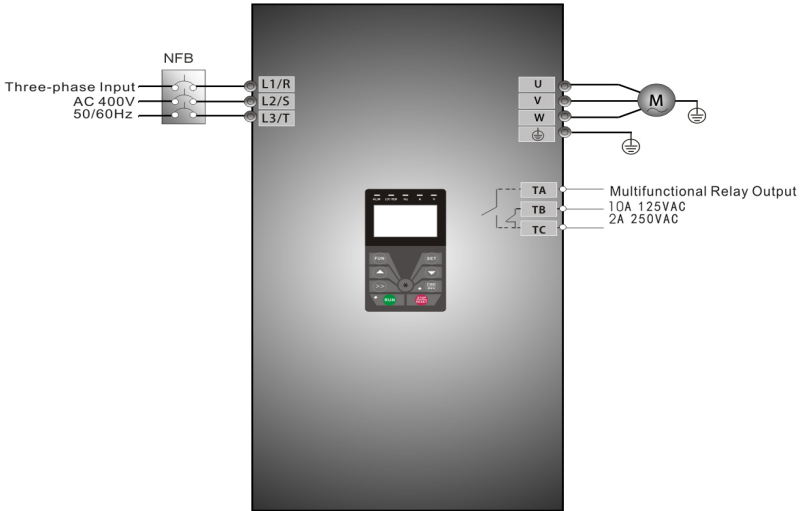

Fig 4-1 Wiring Diagram 1
- (1) Connect the wires in accordance with Figure 4-1. After having checked the wiring successfully, switch on the air switch, and power on the inverter.
- (2) Press the “Fun” key, to enter the programming menu.
- (3) Measure the parameters of the motor
- (1) Connect the wires in accordance with Figure 4-1. After having checked the wiring successfully, switch on the air switch, and power on the inverter;
- (3) Study the parameters of the motor: the operation process is the same as that of example 1.
- (4) Set functional parameters of the inverter: